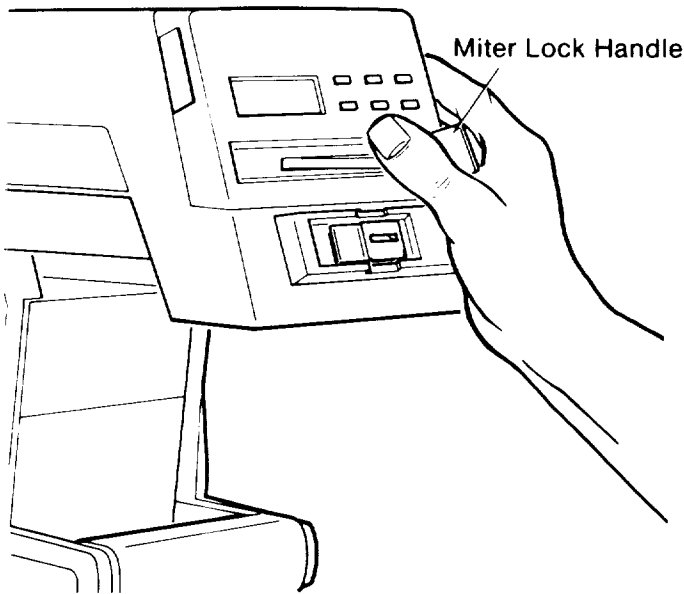

Fig. 160 - Miter Lock - Unlocked
1. Move the arm to an unindexed position and leave the *miter lock* in the unlocked position (Figure 160)